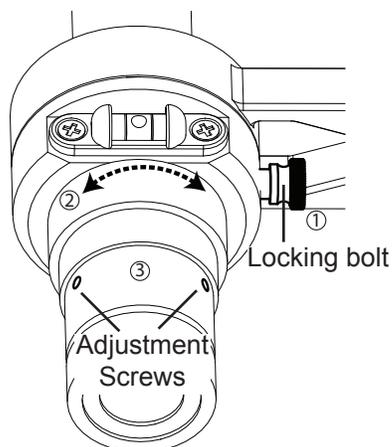

Fig. 3.4a
2. Loosen the polar scope locking bolt (Fig. 3.4a).
3. Loosen the locking bolt in Fig. 3.4a, rotate the polar scope to set the 0-6 line in the polar scope pattern parallel to the verticle reference of the object.
4. Tighten the plar scope locking bolt in Fig. 3.4a again.